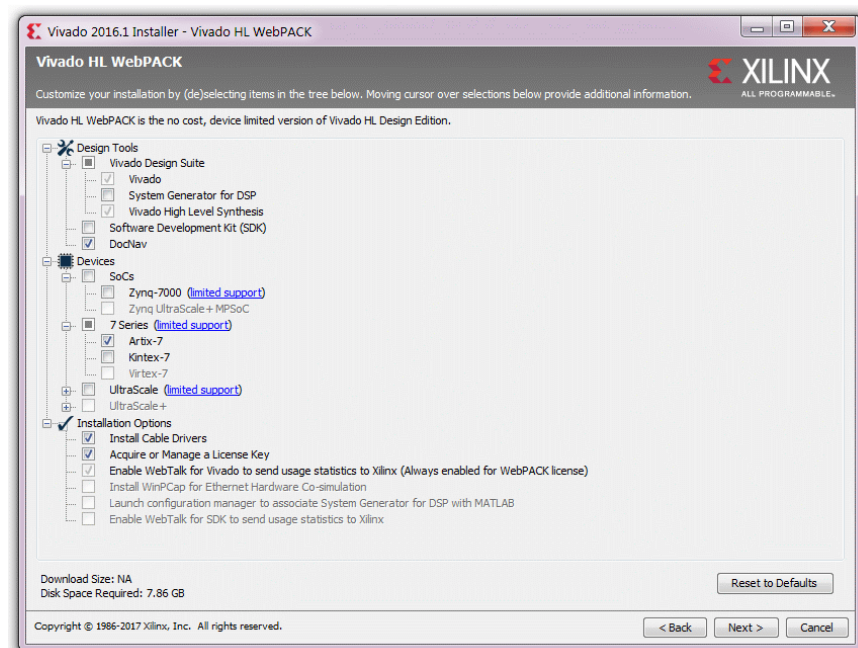

Figure 5: Component selection (all other lectures)
- * **For all other lectures** select the Artix-7 device family because an Artix-7 chip is contained on the Basys3 development board that is used in the lecture, see Figure 5